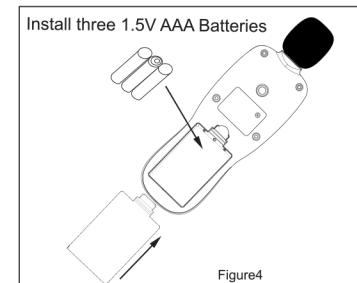

Figure 4
1. Open the battery cover, put 3 AAA size batteries (1.5V, see Figure 4).